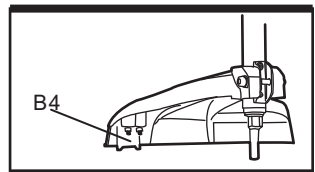

Fig. 15f
- 10). A line cutter (B4) is integrated with the trimming guard (B3) and this will cut the line to the necessary length. (See Fig. 15f)